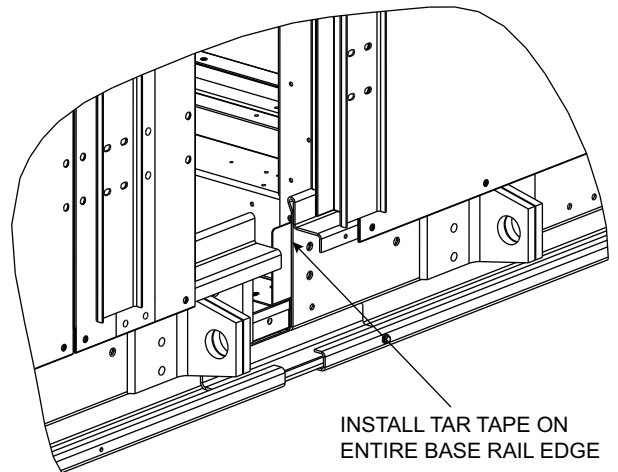

Fig. 54 — Tar Tape Location
9. Install tar tape on edge of main unit base rails to seal base rail splice. See Fig. 54.